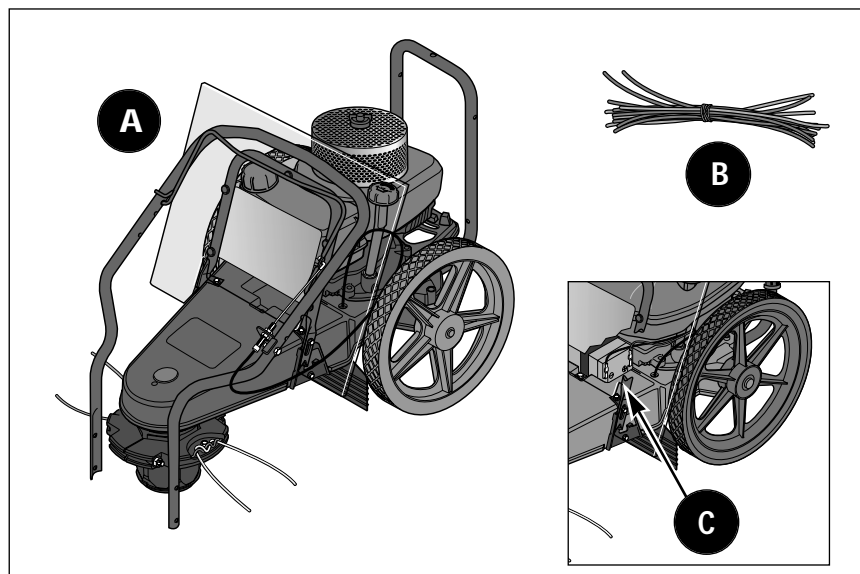

Figure 2-1: Unit as shipped (recoil start model shown). Battery for electric start model is shown in inset.
- Trimmer/Mower Assembly (A, Figure 2-1)
- Extra Trimmer Line (B, Figure 2-1): six pieces of heavy-duty gauge .130" dia. line and six pieces of extra-heavy-duty gauge .155" dia. line.
- (1) Safety goggles
- (3) Plastic cable ties
- (1) Battery (installed on unit – see C, Figure 2-1)
- (2) Ignition Keys and (1) Battery Recharger (in separate electric start package)